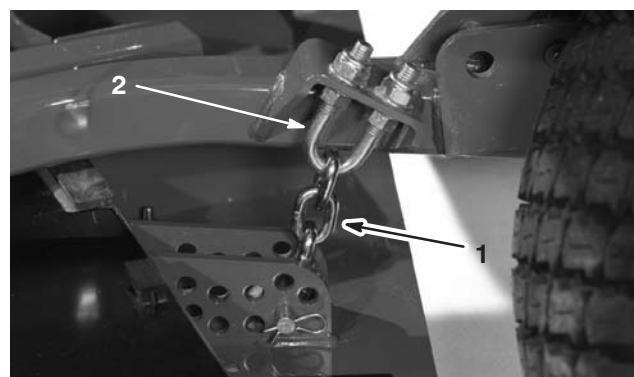

Figure 12
5. Remove the hairpin cotter and clevis pin securing the height-of-cut chains to the rear of the center cutting unit (Fig. 12).